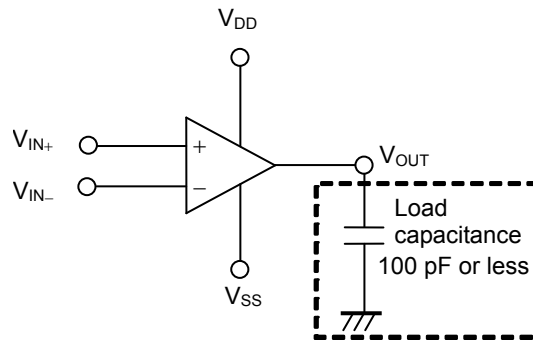
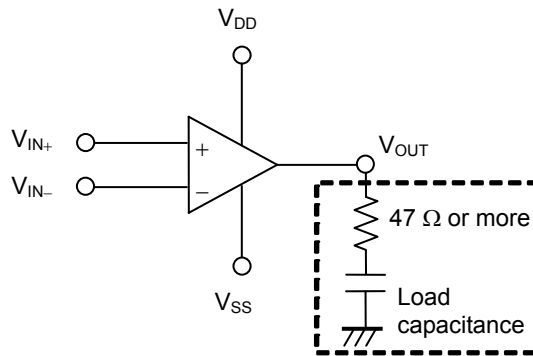

Figure 12
Figure 13
- This IC operates stably even directly connecting a load capacitance of 100 pF or less to the output pin, as shown in **Figure 12**. When connecting a load capacitance of 100 pF or more, connect a resistor of 47 Ω or more as shown in **Figure 13**. In case of connecting a filter for noise prevention, and connecting a load capacitance of 100 pF or more, also connect a resistor of 47 Ω or more as shown in **Figure 14**.